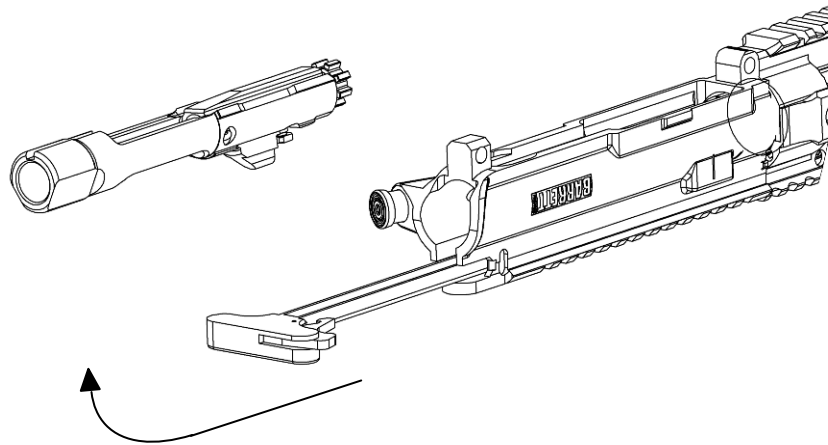

Figure 20-2
2. Next, lift the charging handle out of its track and remove it. (Figure 20-2).